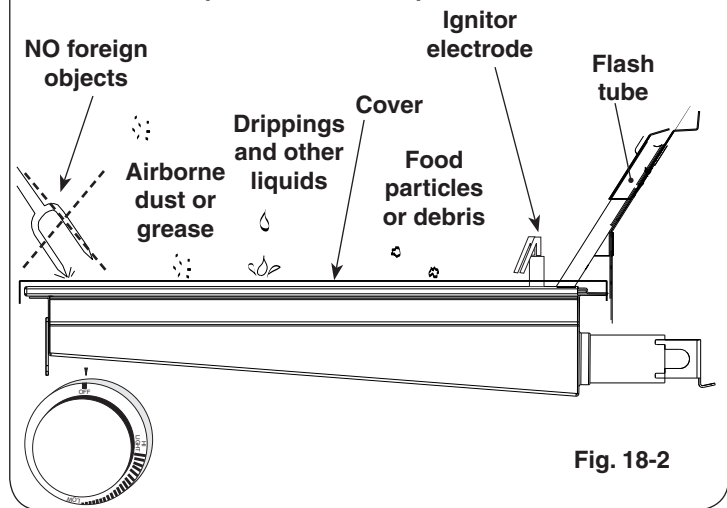

Fig. 18-2
- When not in use, **always** cover the infrared burner with the stainless-steel cover. This protects the burner from drippings (from other cooking), airborne particles, and foreign objects (Fig. 18-2).
- Do not strike or scratch the burner ceramic as it may chip, crack, or break (Fig. 18-2).